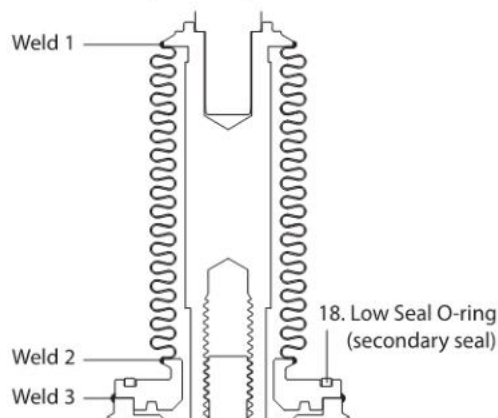

**Figure 1.**
**Bellows subassembly (Figure 1)**
**Ported bonnet nut (15)**
This allows monitoring sealing condition of weld 3 (Figure 1) and low seal O-ring (18).